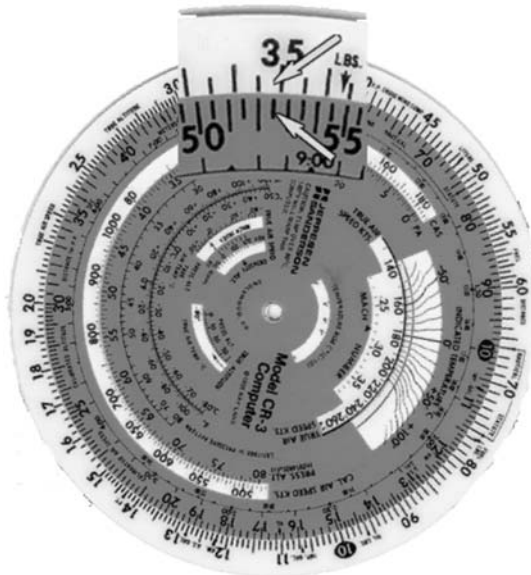

Figure 4.3-29 Fuel Conversion 2
3. Find 525 (525 gallons) on the inner (gallons) scale and read the amount of total fuel weight on the outer (pounds) scale. (Figure 4.3-29)